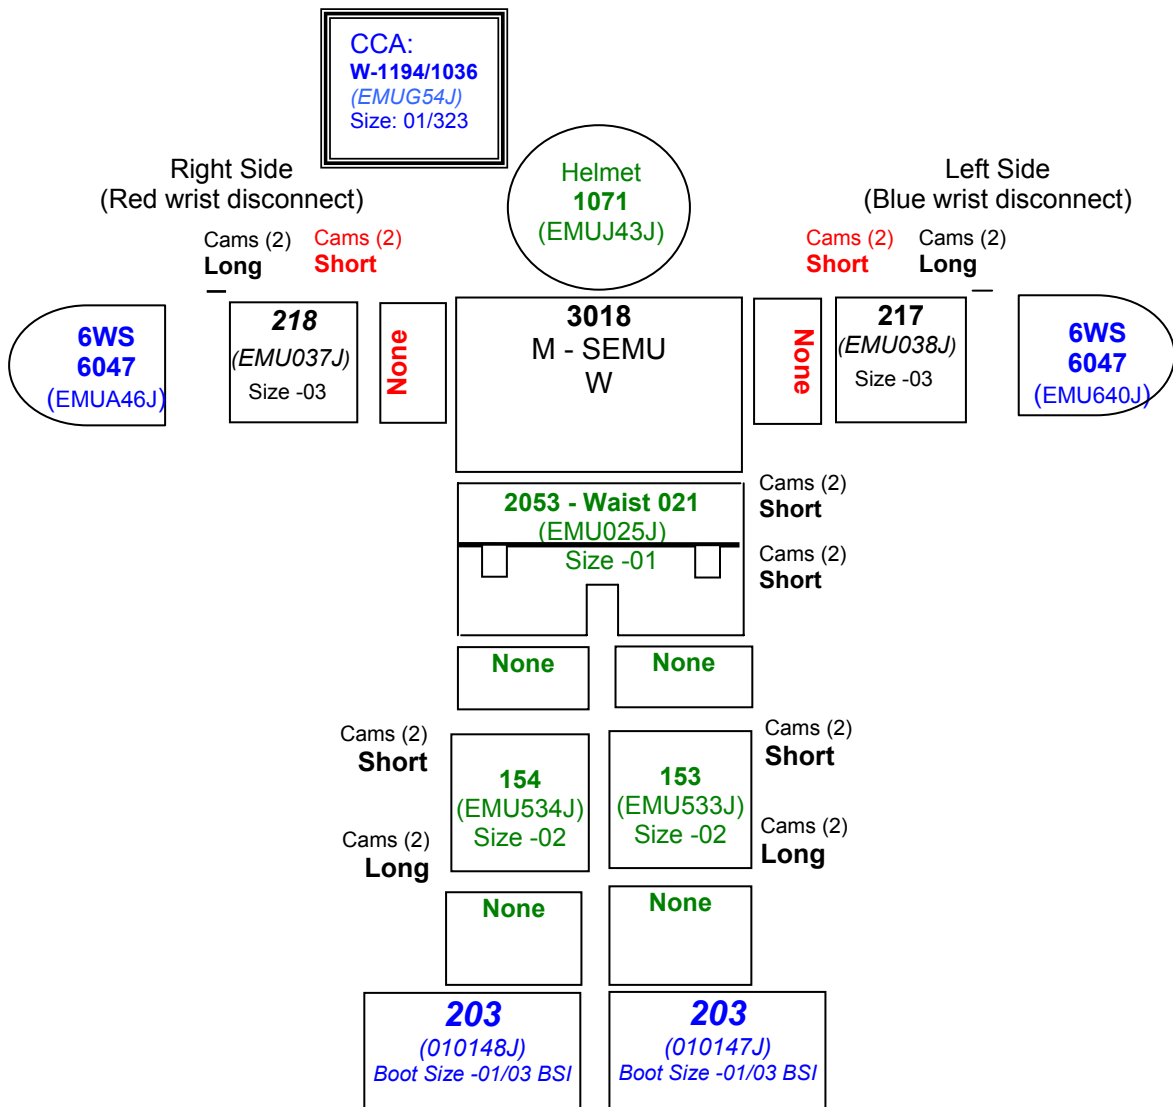
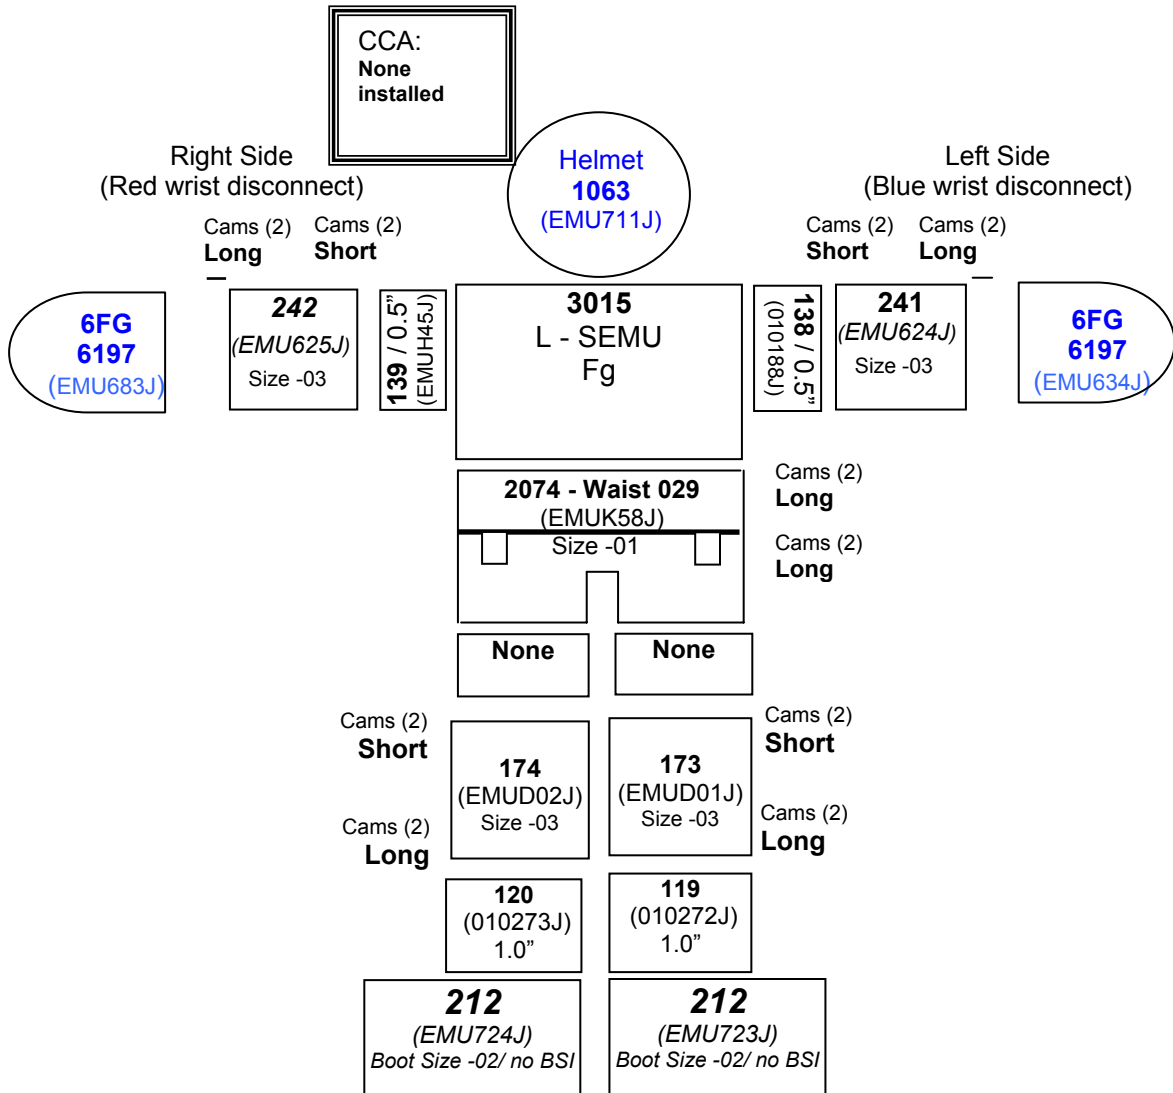

FIGURE 1 - FINAL EMU 3018 (W) CONFIG (viewed from front)
FIGURE 2 - FINAL EMU 3015 (Fg) CONFIG (viewed from front)
This procedure will reconfigure **EMU 3018 for S. Williams** per Figure 1 and complete final reconfiguration of **EMU 3015 for C. Fuglesang (return contingency EMU)** per Figure 2.
4. Configure W leg segments cams and W waist brief cams per Figure 1.
16. Adjust arm segments upper cams (2 per arm) to short position on EMU 3018, see Figure 1.
32. Verify final configuration per Figures 1 and 2 below.